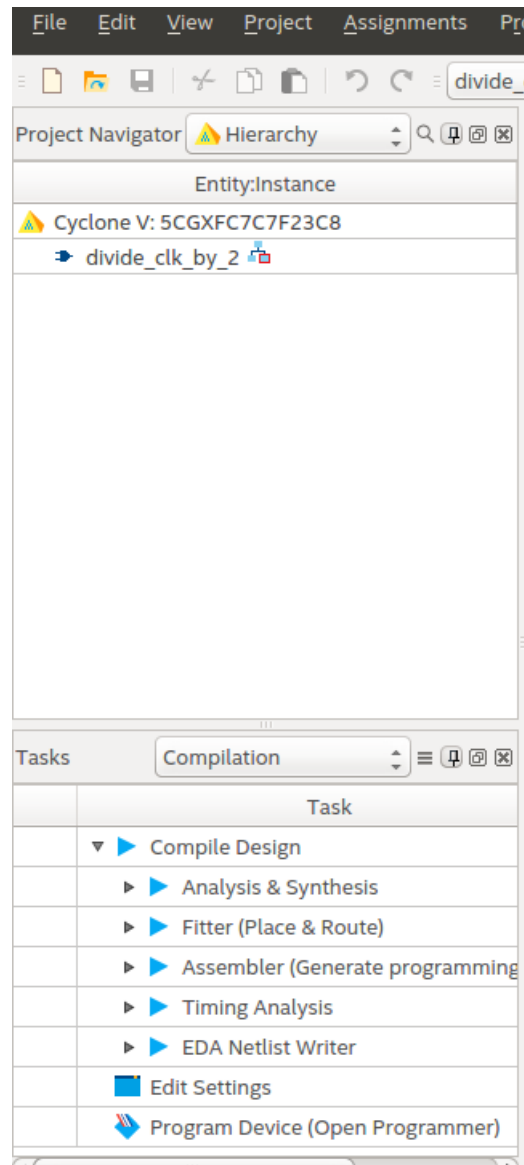

Figure 24: Project ready.
10. The project is now ready to be compiled. You should see something similar to Figure 24. Here, the top part of the panel indicates the chosen device and the top-level unit to be compiled. The bottom part shows the synthesis stages that Quartus has performed.